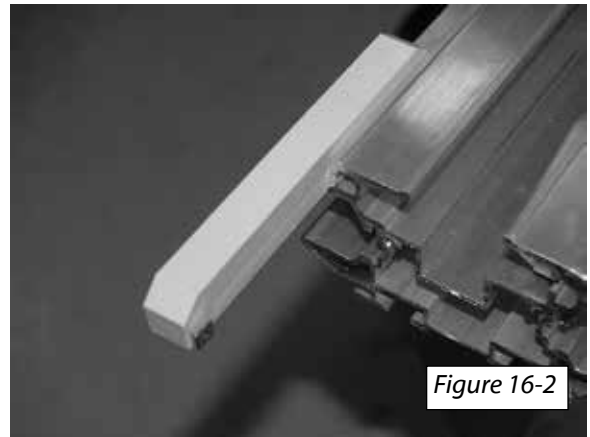

Figure 16-2
- 7.** Slide the lower limit cam square nuts into the limit cam fastener channel and onto rail. [Figure 16-2]